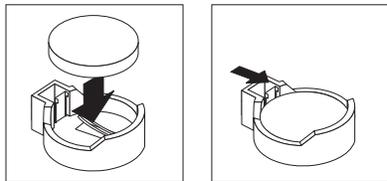

Figure 24. Installing the battery
- b. Press the battery down into the socket (Figure 24) until it clicks into place. Make sure that the battery clip holds the battery securely.